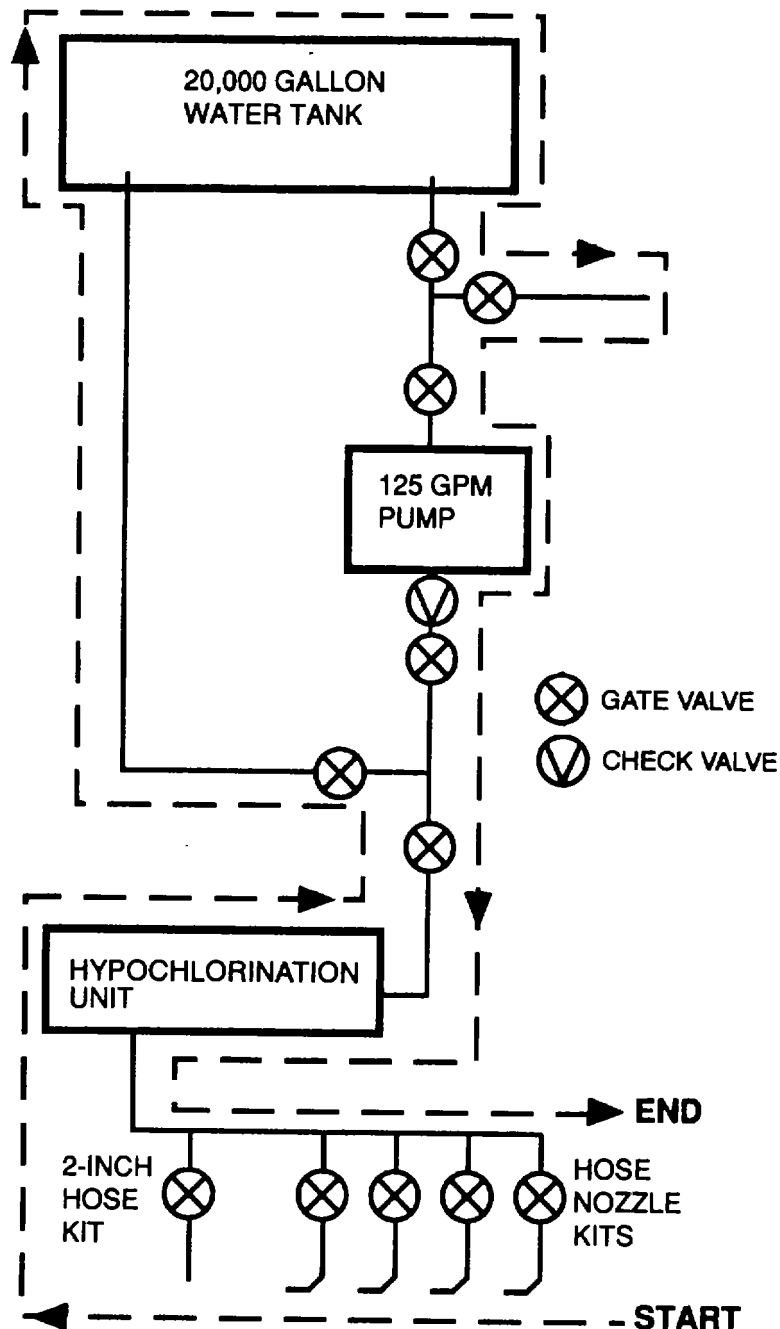

Figure 2-3. PMCS Routing Diagram
- (1) Keep the equipment clean. Remove dirt, sand and debris from quick disconnect couplings, hose ends, gate valves and distribution nozzles to prevent excessive wear and contamination of the water system. Use soap and water to remove dirt. Do not contaminate system with any type of cleaning solvent.
- (2) Bolts, nuts and screws. Check them for obvious looseness, missing, bent or broken condition on gate valves. If you find a bolt, nut or screw you think is loose, tighten it or report it to your supervisor.
- (3) Hoses. Look for wear, damage and leaks. Make sure clamps and quick disconnect couplings are tight. Wet spots show leaks, but a stain around a fitting or connector can also mean a leak. If a leak comes from a loose fitting or coupling, tighten it. If something is broken or worn out, report it to your supervisor.
- i. When you check for "operating condition", look at the component to see if it's serviceable. Refer to Figure 2-3 for a PMCS routing diagram that shows the typical order by which the checks and services are done.